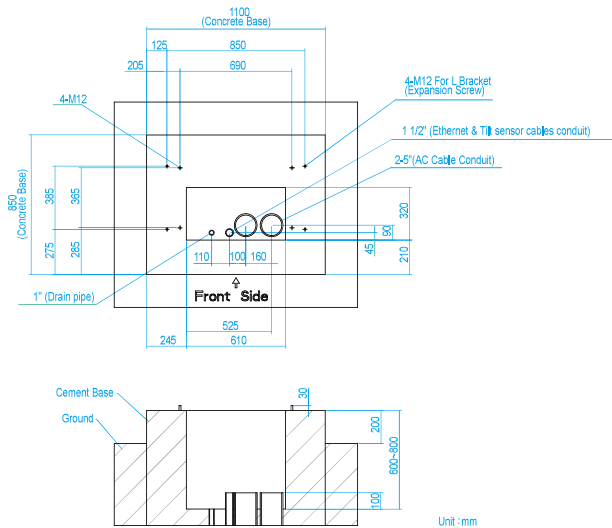
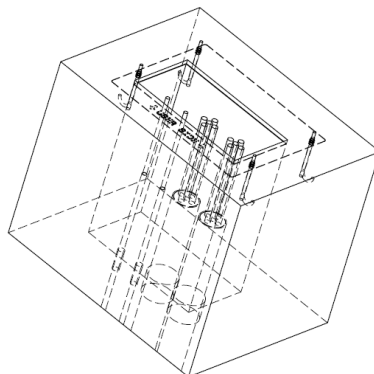

Figure 12. Installation Dimensions
Figure 13
See figure 12 and figure 13.
5) Attachment method 1: Install four M12 threaded rods at a length of Ø1.18in (30mm) per figure 12 and figure 13. The threaded rods need to be installed within the following tolerance of the screw holes on the EVSE:
NOTE It is recommended to create or use a metal match-drill plate, per figure 12, to make sure placement of threaded rods and holes are in the proper position.
7) Extend the 3 phase 8 wire AC input cables from conduit of concrete base. See figure 13.